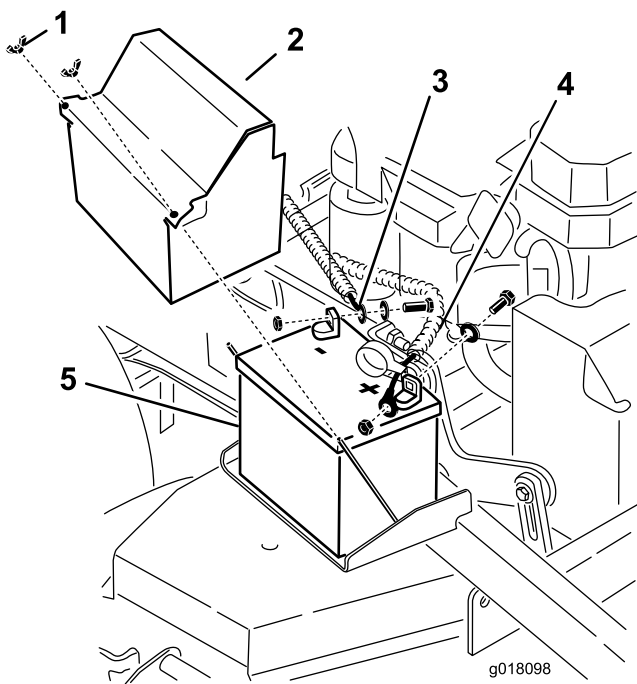

Figure 50
3. Lift the black rubber cover on the negative cable. Disconnect the negative battery cable from the negative (-) battery terminal (Figure 50).
4. Slide the red terminal boot off the positive (red) battery terminal. Then remove the positive (red) battery cable (Figure 50).
5. Remove the battery hold down plate (Figure 50) and remove the battery.
1. Place the battery onto the machine (Figure 50).
3. First, install the positive (red) battery cable to positive (+) battery terminal with a nut, washer and bolt (Figure 50). Slide the rubber cover over the post.
4. Then install the negative battery cable and ground wire to the negative (-) battery terminal with a nut, washer and bolt (Figure 50). Slide the rubber cover over the post.